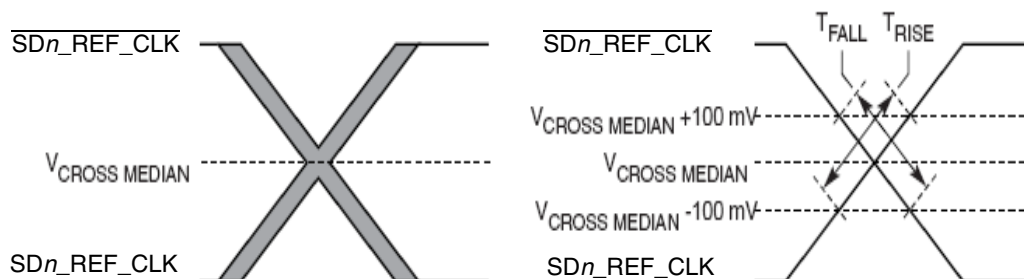

Figure 48. Single-Ended Measurement Points for Rise and Fall Time Matching
4. Matching applies to rising edge rate for SDn_REF_CLK and falling edge rate for $\overline{SDn\_REF\_CLK}$. It is measured using a 200 mV window centered on the median cross point where SDn_REF_CLK rising meets $\overline{SDn\_REF\_CLK}$ falling. The median cross point is used to calculate the voltage thresholds the oscilloscope is to use for the edge rate calculations. The Rise Edge Rate of SDn_REF_CLK should be compared to the Fall Edge Rate of $\overline{SDn\_REF\_CLK}$, the maximum allowed difference should not exceed 20% of the slowest edge rate. See Figure 48.